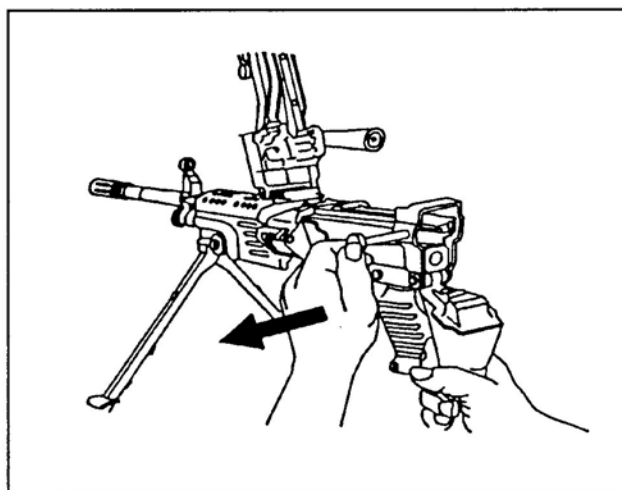

Figure 1. Rear opening of the receiver.
- (1) Raise the cover assembly. Pull the upper retaining pin at the rear of the receiver to the left. Let the butt pivot downward so the rear opening of the receiver is clear (Figure 1).